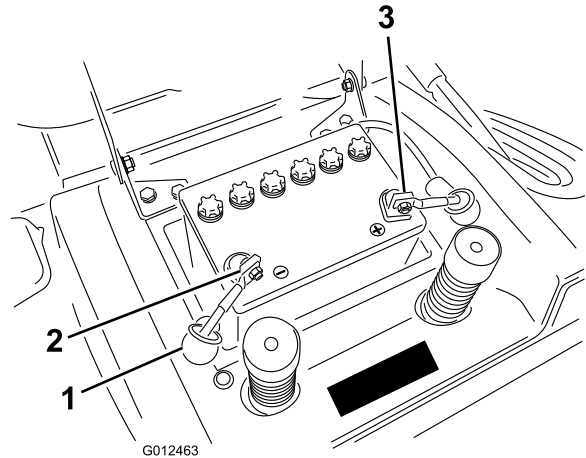

Figure 33
7. Disconnect the negative (black) ground cable from the battery post (Figure 33).
9. Disconnect the positive (red) cable from the battery post (Figure 33).
1. Place the battery into the chassis with the battery posts toward the rear of the machine (Figure 33).
3. Using the bolt and wing nut, connect the positive (red) cable to the positive (+) battery post (Figure 33). Slide the rubber cover over the battery post.
4. Using the bolt and wing nut, connect the negative (black) cable to the negative (-) battery post (Figure 33). Slide the rubber cover over the battery post.